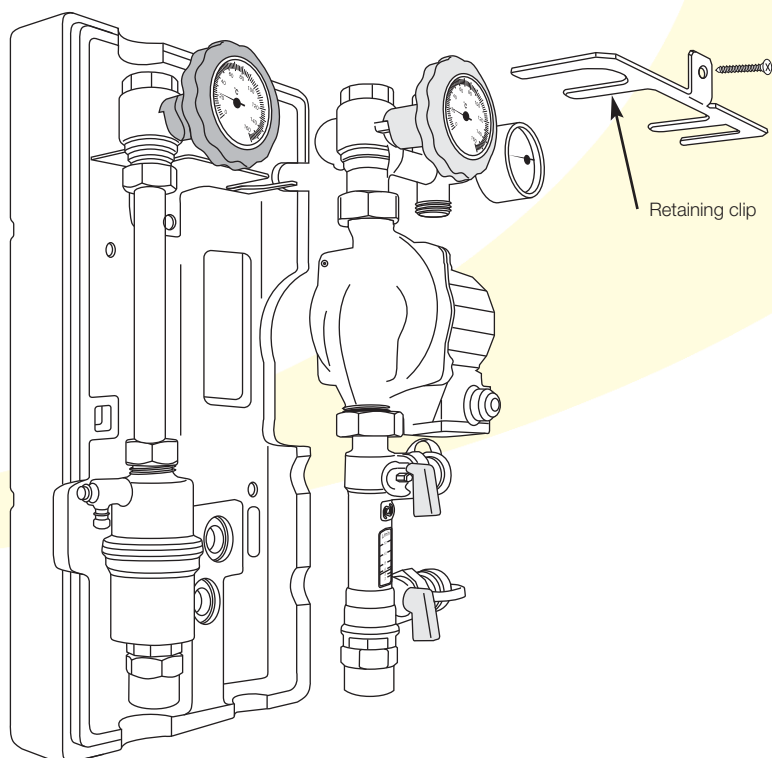

Figure 3-2: Re-fitting flow and return assemblies to wall bracket
7. Re-fit the flow and return assemblies, inserting the body of the flow and return valves into the corresponding fork in the wall bracket. Refer to Figure 3-2.